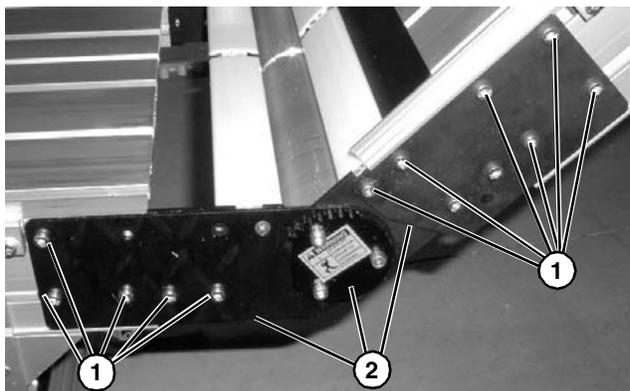

Figure 81
3. On one side of knuckle, remove screws (Figure 81, item 1) and knuckle plate assembly (Figure 81, item 2).